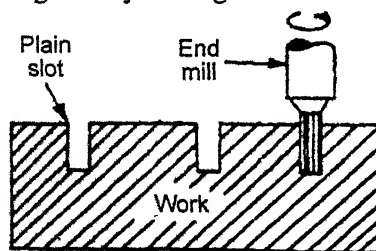

Fig. 10.54. End milling.
**7. End milling.** Refer to Fig. 10.54. It is an operation of producing narrow slots, grooves and keyways using an end mill cutter. The mill tool may be attached to the vertical spindle for milling the slot. Depth of cut is given by raising the machine table.